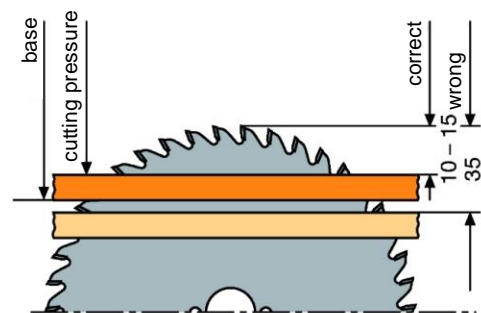

Figure 7: Correct saw blade projection for fixed circular saws and sliding table saws (source: Leitz GmbH & Co. KG)
- the quality of the cut edge depends on the height adjustment of the saw blade as well as the items mentioned below. The ideal height depends on the thickness of the decorative laminate and the circular saw blade (figure 7).